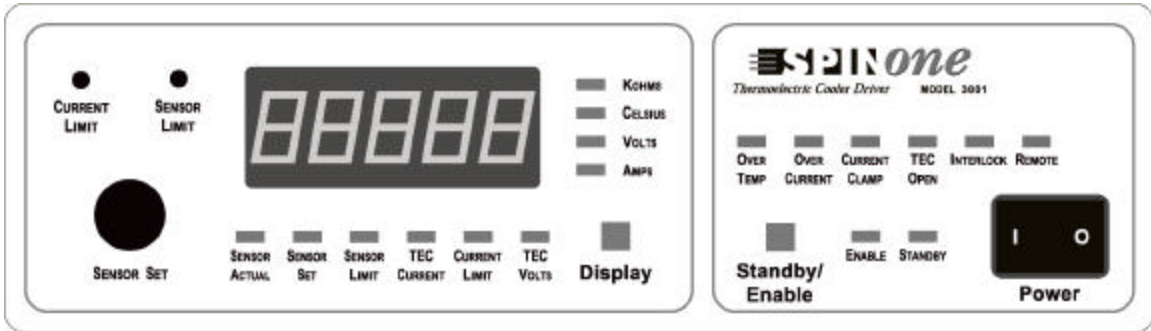

Figure 1. Front View, Model 3001
4.5 Apply power to the Model 3001. Refer to the front panel diagram (Figure 1) and set the power switch to “On” (I). Cooling fans start immediately and various panel lights will activate. A red LED on the front panel may activate: this issue will be resolved below. If no red lights appear, the “Standby” LED will illuminate in approximately five seconds after the mains power has been activated.
Please refer to Figure 1.